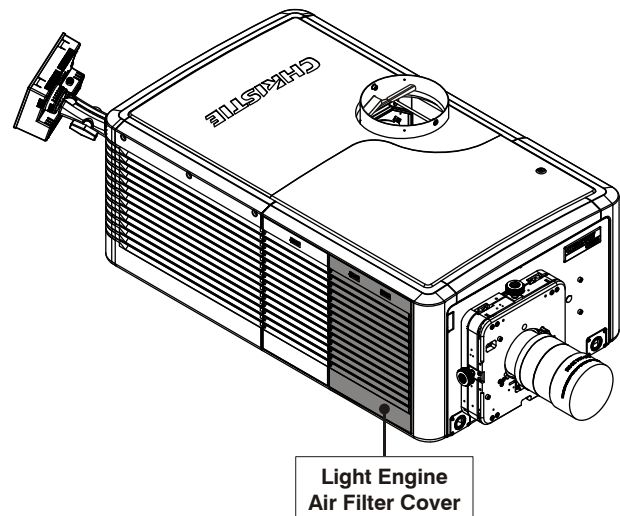

Figure 5-12 Light Engine Air Filter Cover
2. Remove the light engine air filter cover (including filter) (**Figure 5-12**).
3. Slide the air filter out from behind the air filter cover and discard (Figure 5-12).